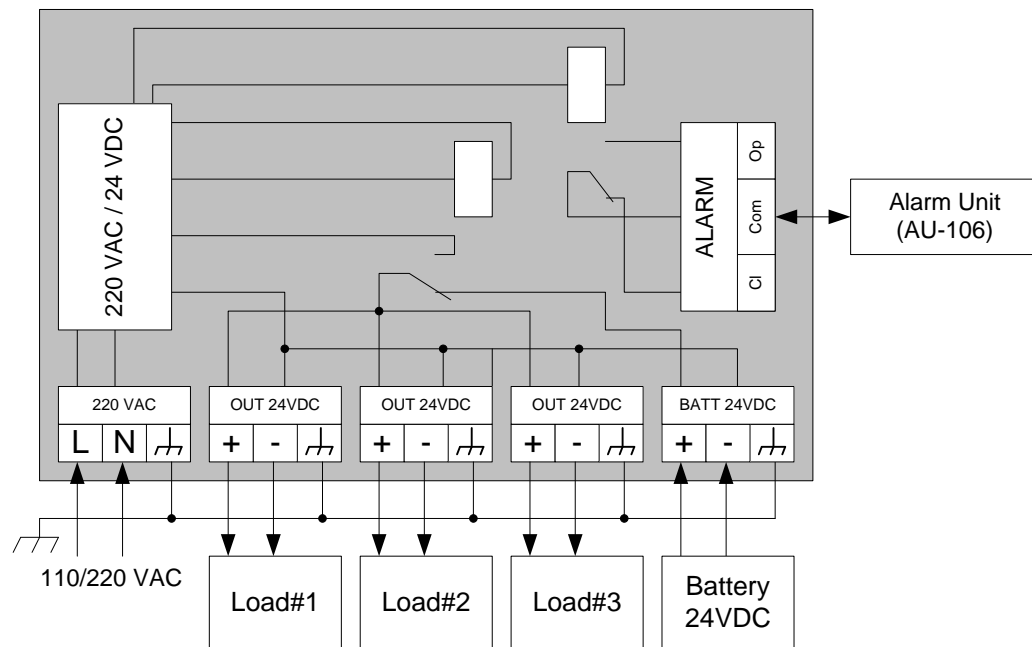

Figure 4. Diagram of Devices Connection with PSU.
5. Connect led cables with appropriate terminals on the board (refer to Figure 4).